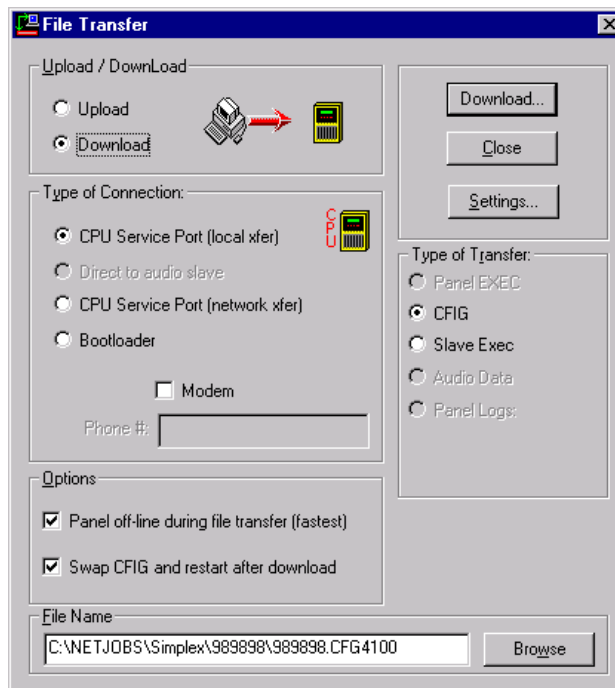

Figure 15-4. File Transfer Utility
The 4100U File Transfer utility, shown in Figure 15-4, can be started from within the 4100U Programmer or from the Windows Start menu. To do either of these, follow these steps.
In both cases, the File Transfer Utility, shown in Figure 15-4, appears.
1. In the File Transfer utility screen (Figure 15-4), click on the **Settings** button. A window similar to the following appears. This window allows you to specify the settings for the serial communication parameters used by the PC.